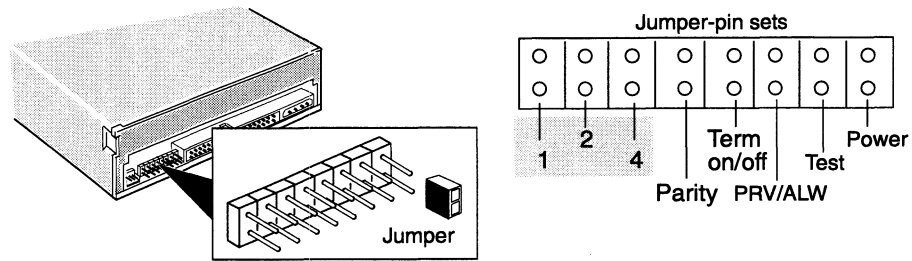

Figure 1 SCSI ID jumper settings
2. If you need to change the the SCSI ID number, install the jumpers for that number according to the table and illustrations in Figure 1.
For example, if you choose SCSI ID 3, install jumpers across jumper pin sets 1 and 2 as indicated in Figure 1 by the word IN. Do not install jumpers across jumper-pin set 4 as indicated by the word OUT.
- Installing the Term jumper (Figure 1) activates the SCSI bus terminator resistors in the drive, making the drive terminate the bus. You may need to remove this jumper. To find out do the following: